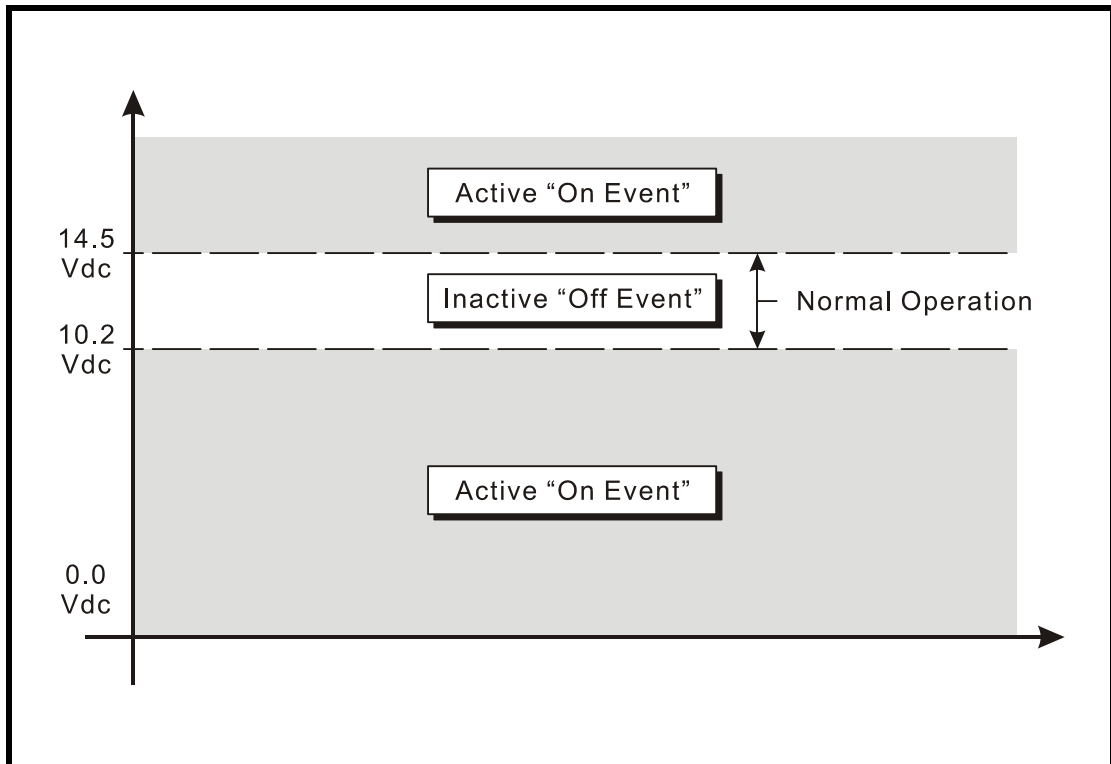

Figure 4 - Analog Input Operating Regions vs. Limit Values
Figure 4 illustrates the relationship of the Low and High Limit Values to the Analog Input state. Each region defines the type of Event Record that is created by transitions of the input. The figure depicts an Analog Input configured to monitor a typical 12Vdc battery source. The figure indicates that the unacceptable region includes all voltages less than 10.2Vdc and all voltages greater than 14.5Vdc. The unacceptable region always consists of two portions separated by the acceptable region. If the input is within the range extending from 10.2 to 14.5Vdc the battery voltage is considered to be acceptable.
- **On:** The Digital Input voltage is in the range from 5 to 40Vdc. The Analog Input level is outside the acceptable range as defined by the region between the Limit Values (refer to Figure 4 on page 28). The Virtual Input evaluates to a true logic state. The Timer Input has reported a timed interval that is either too fast or too slow as compared to its assigned Low and High Limit Values, respectively (refer to the section entitled “Timer Inputs (W)” on page 29).